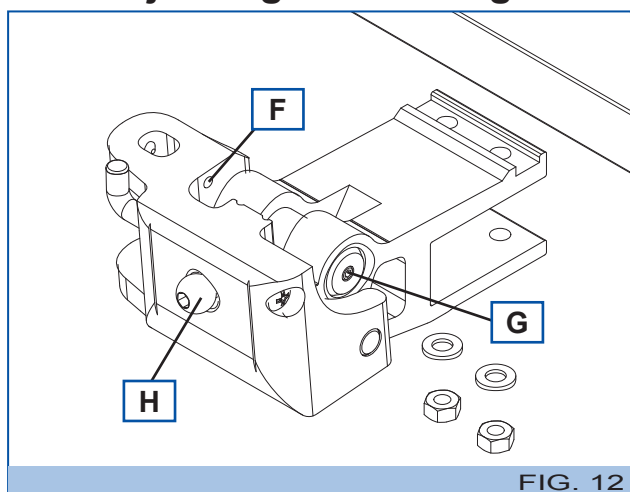
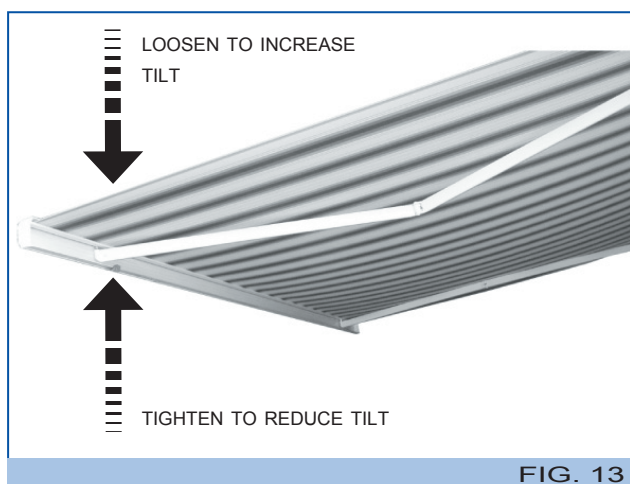

FIG. 12
FIG. 13
- 11▪With the awning open, adjust the screw (H-Fig.12) with a 6mm Allen wrench until the desired tilt is reached (see Fig.13).
- 13▪Once the desired tilt has been reached, fix the position of the awning by tightening the screw (G-Fig. 12) with a 3mm Allen wrench.